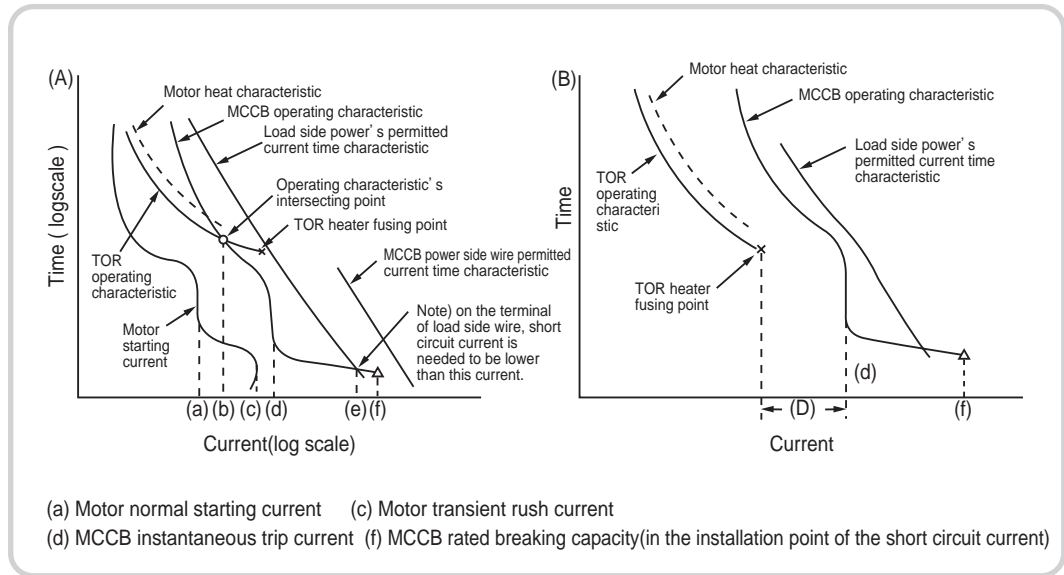
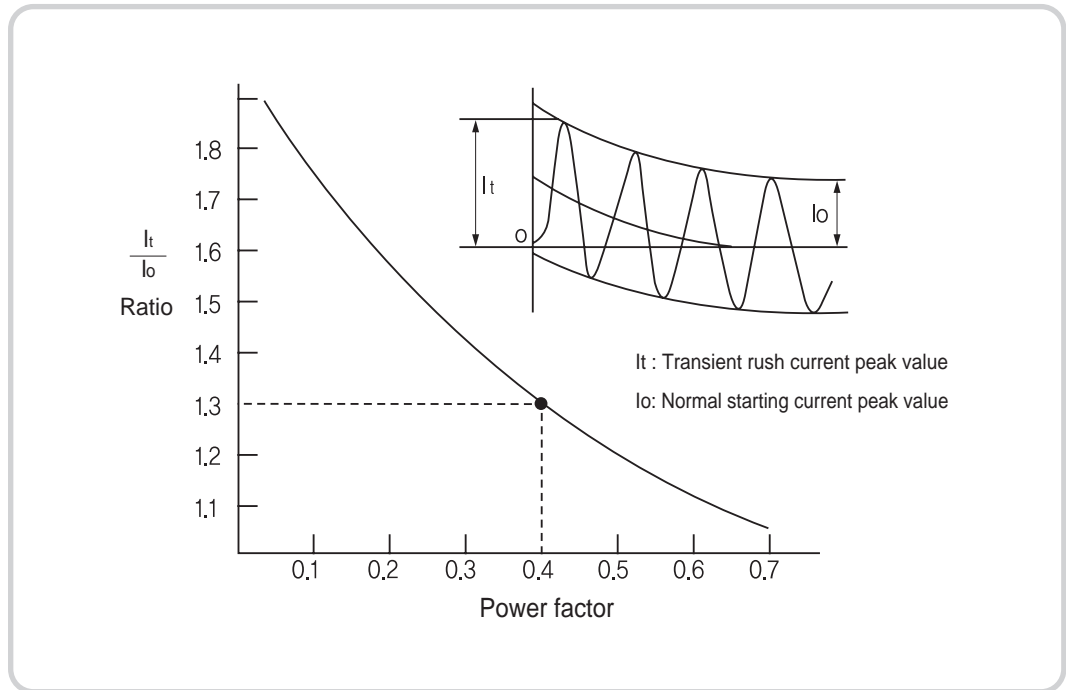
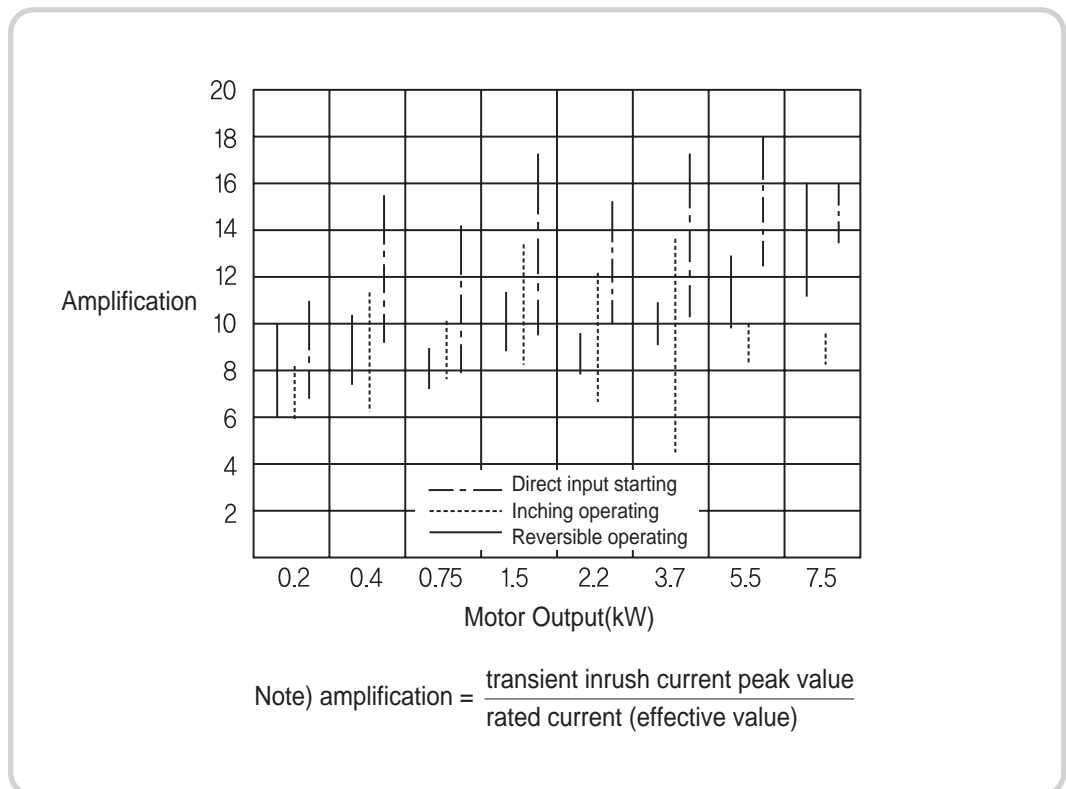

Fig. 68. Each characteristic's relation of protection cooperation
Fig. 70. Inrush current during motor's starting
Fig. 71. Amplification of motor's rated current and transient inrush current
There is a possibility of faulty operation by rush current during motor's starting. For a squirrel-cage motor, approximately 5~7 times the normal starting current flows during starting but because direct current overlaps during early starting (especially very beginning of semi cycle), an even bigger transient rush current flows and the amplification changes by a power factor as in fig. 70. When motor's starting power factor is 0.4 delay, it becomes about 1.3 times of normal starting current. Moreover if there is instant restarting (after power is off, restarting before motor stops spinning), at worst it reaches two times, in other words, 2.6 times of normal starting current from effect of residual current of motor. Fig. 71 shows actual measurement results from a real motor. Instantaneous trip time of MCCB is operated around a semi cycle so it is necessary to be cautious not to be operated with selected rush current. To prevent faulty operation from this rush current, check actual measurement result and set breaker's instantaneous trip current as 14 times of rated current. After deciding operation characteristic of magnetic switch and MCCB like this, it is a problem to make each characteristic's intersecting point. Fig. 68(A) indicates when the 7th item (p191) of protection cooperation condition is satisfied and fig. 68(B) indicates when it's not satisfied. In the case of fig. 68(B), because there is gap of protection cooperation, if the current of this range flows, the TOR's heater will be fused. TOR operating characteristic MCCB operating characteristic MCCB faulty operation
The intersecting point of the MCCB and the TOR's operation characteristics are not just on the breaker's inverse limit time characteristic range shown as fig. 64(A) but also on instantaneous trip range shown as fig. 68. In this case, if the magnetic contactor does not have any extra breaking capacity, it's possible for the intersecting point to exceed the magnetic contactor's breaking capacity. With consideration of this point, the Susol series magnetic contactor has been made to have enough extra breaking capacity, and as shown on table 3, it is over 13 times of rated operational current below 440V. So even when operation characteristic's intersecting point is the same as fig. 68, maximum rated capacity can be selected for the motor so in the case of selecting protection cooperation, it is economically advantageous.
In an MCCB which has a motor with a load and branch circuit with a magnetic switch, short circuit points related with this breaker are the six spots A through F in fig. 70 and since all other points have almost no possibility of a short circuit fault, they are not considered. Therefore short circuit faults on each point are investigated as below. At first, KSC and IEC standards' protection cooperation type as protection cooperation degree (p193) was introduced but if there is short circuit fault on C or D point of fig. 70, the short circuit current is big and permitted over current of Susol series magnetic contactor is as shown on table 5. So generally protection cooperation type will be Type"1" and it is difficult to set it as Type"2". But when the short circuit point is on E or F of fig. 70, current decrease by wiring's impedance is quite big and the calculated result (higher impedance from D point is 0.) for wire length, 50m and 100m between D and E of fig. 70 is value shown on table 6. In fact, higher impedance is also added from D point so if there is short circuit to E point, the current which flows to magnetic switch gets smaller than the value on table 5. In this case, there is big possibility of having Type "2" as the cooperation type. If there is fault on F point, current gets smaller so the condition is better than E point.
Based on Susol series magnetic contactor's permitted over current (the value in the case of no current limit of short circuit current with MCCB breaking time as 10ms), the calculated result of wire length which is needed to make protection cooperation Type "2" possible, is stated on table 5. This value is also calculated with higher impedance from D point as 0, so actual wire length will become a little shorter than this. Even when the length of wire is short, it is relatively easy to make possible up to certain length by methods as (1) enlarge magnetic contactor's size, (2) use MCCB with current limit effect, etc. over current resistant quantity is stated on table 4 but except small quantity rated heater, generally coordination Type "2" is relatively easily satisfied. In the case of a short circuit fault on A or B point of fig. 70, if the MCCB's breaking capacity is sufficient, there is no problem.
As investigated above, if each selection is correct, coordination of Susol series MCCB and magnetic switch is relatively easily satisfies 1~8 details of coordination conditions (p195). But during the event of a disconnection fault, it becomes about type "2" of KSC and IEC standards coordination for short circuit on E or F point of Fig. 70 or type "1" for short circuit on C or D point. Depending on short circuit protection device, it is possible to have type "2" of coordination type even with short circuit fault of point C or D. But point C or D's short circuit occurs in magnetic contactor or TOR's terminal unit so it is impossible to avoid insulation deterioration between terminals and terminal's burnout. Eventually a magnetic switch needs to be exchanged so even with type "2" of coordination type, it should be regarded as having fewer advantages. So for coordination type during short circuit, type "2" is proper in the case of short circuit on E or F point and type "1" for short circuit on C or D point. If you interpret that 9th detail of coordination conditions (p191) is applied to the short circuit case on E or F point, as stated above, it can be said that combination of Susol series MCCB and Susol magnetic switch can be satisfied at certain level.